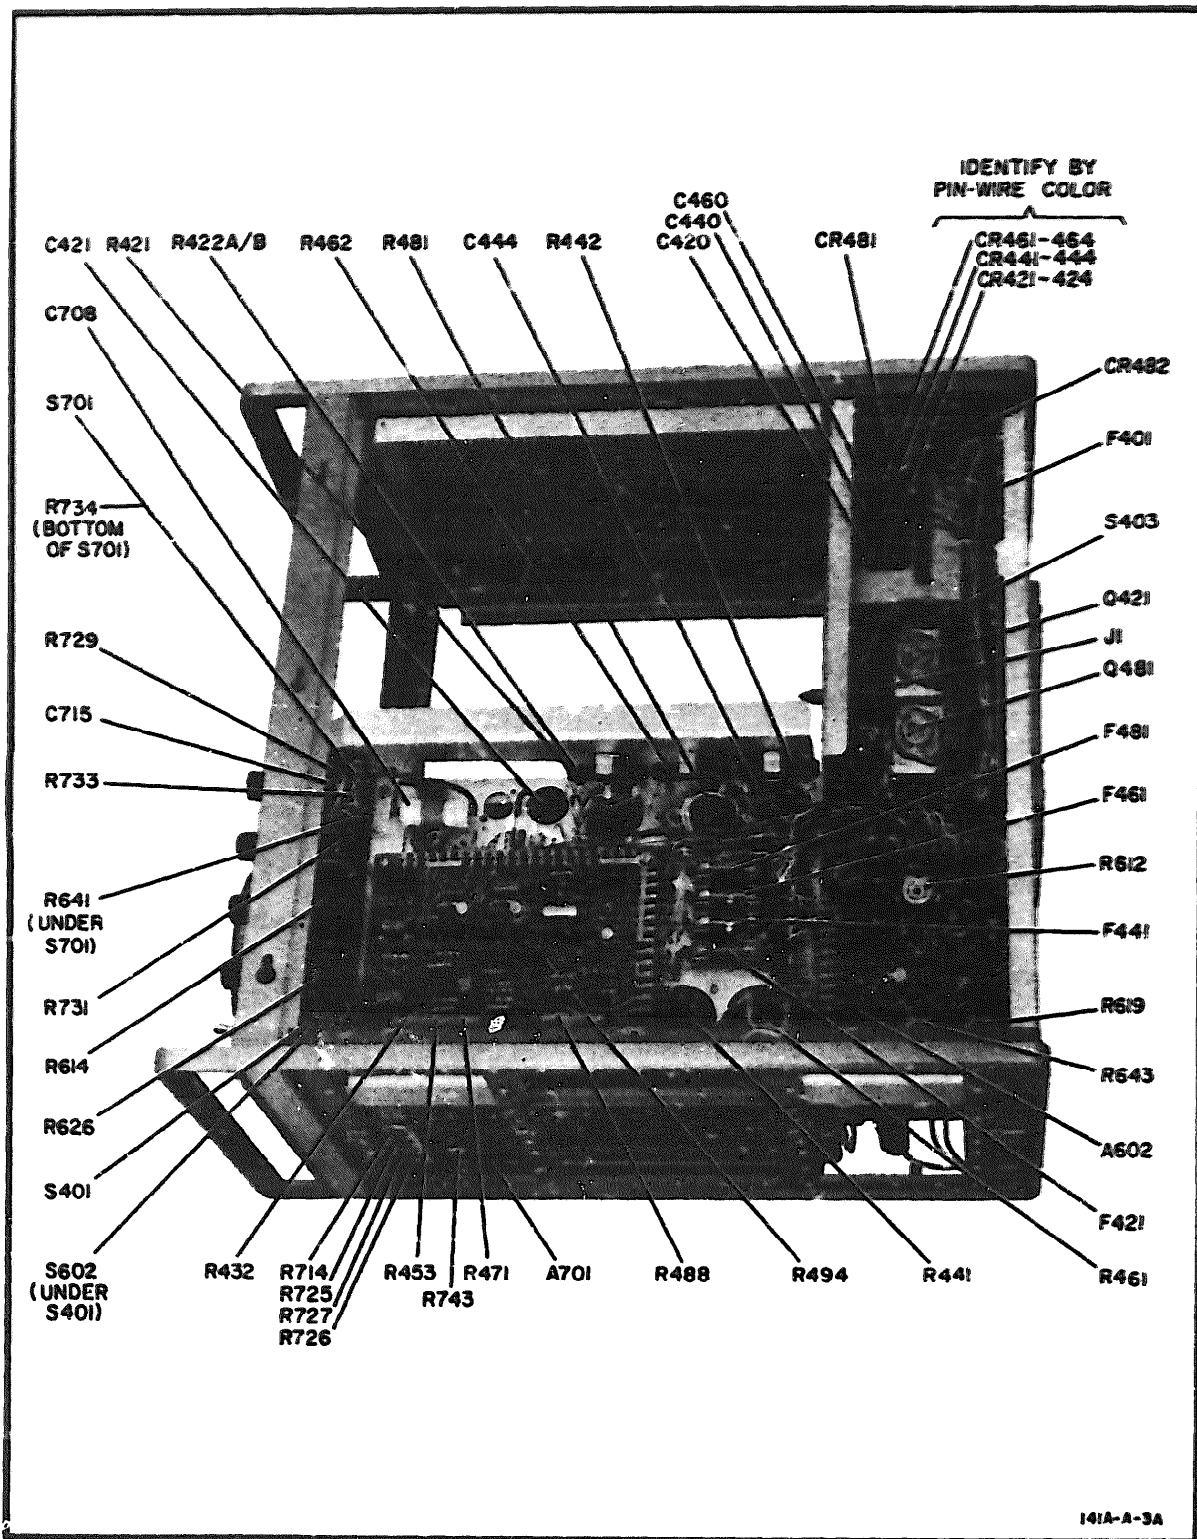

Figure 1-19. Adjustment and Component Locations, Bottom View
**c. ADJUSTMENT COMPONENT IDENTIFICATION.** All internal adjustment components are identified in Figure 1-19.
Chassis-mounted components are identified in Fig. 1-19 & 1-20. Components on circuit boards are identified in figures near the applicable schematic (also see Table 1-9).